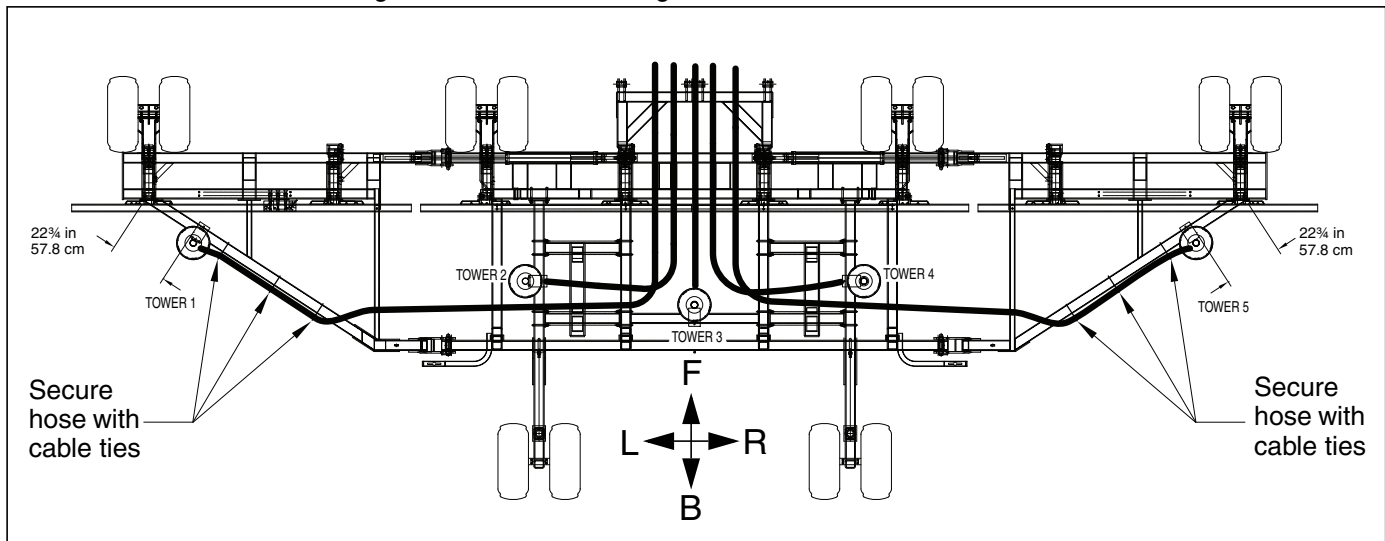

Figure 9
Refer to *Figure 9*
15. Re-route the hose along the rear outside of the wing as shown in *Figure 9*.